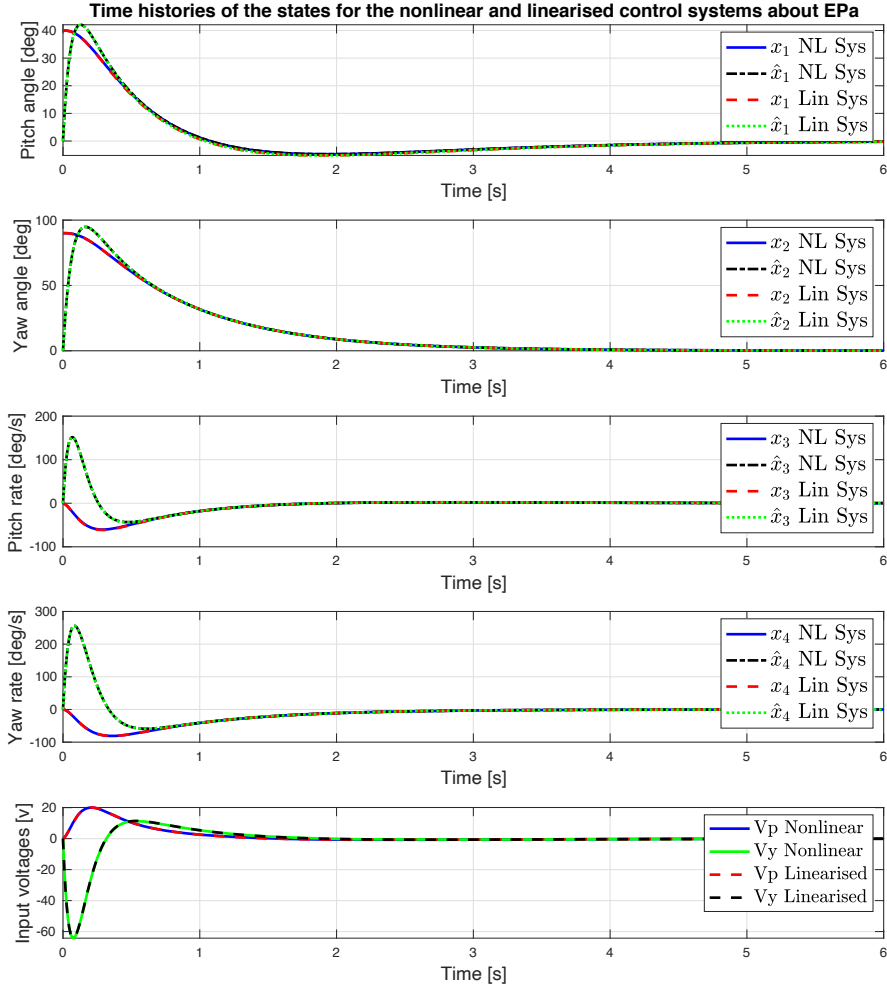

Figure 4: Time histories of the states, their estimations and input voltage.
7. Plots the time histories of the states and their estimations for both the nonlinear and linearised control system against each other. Plot the states  $x_1(t)$  and its linear approximation  $x_{1a}(t) + \bar{x}_{1a}$  together with their estimations on top of each other in one graph, then plot  $x_2(t)$  and  $x_{2a}(t) + \bar{x}_{2a}$  and their estimations together on another graph, and so on. Sample results for the initial conditions  $x_1(0) = 40$  deg,  $x_2(0) = 90$  deg,  $x_3(0) = 0$  deg/s and  $x_4(0) = 0$  deg/s are shown in Figure 4, where we selected the following eigenvalues:  $\{-1, -1.1, -1.2, -1.3\}$  for the control design, and  $\{-10, -11, -12, -13\}$  for the observer. Note that the initial condition of the observer is set to zero.